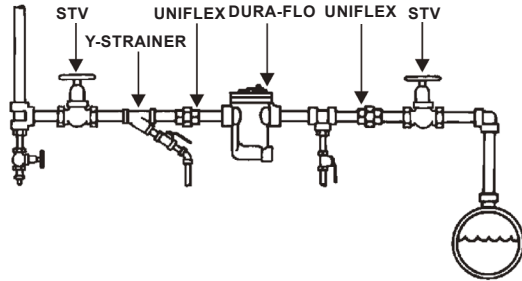

Figure 6. Dura-Flo Typical Installation
- For all models, install a strainer ahead of trap. See Figure 6.
- Install union fittings (Uniflex) and shut off valves (STV) on both sides of trap for ease of servicing and trap testing. See Figure 6.
- Install a test and pressure relief valve to ensure relief of internal pressure prior to servicing and as a visual indication of trap operation. See Figure 6.